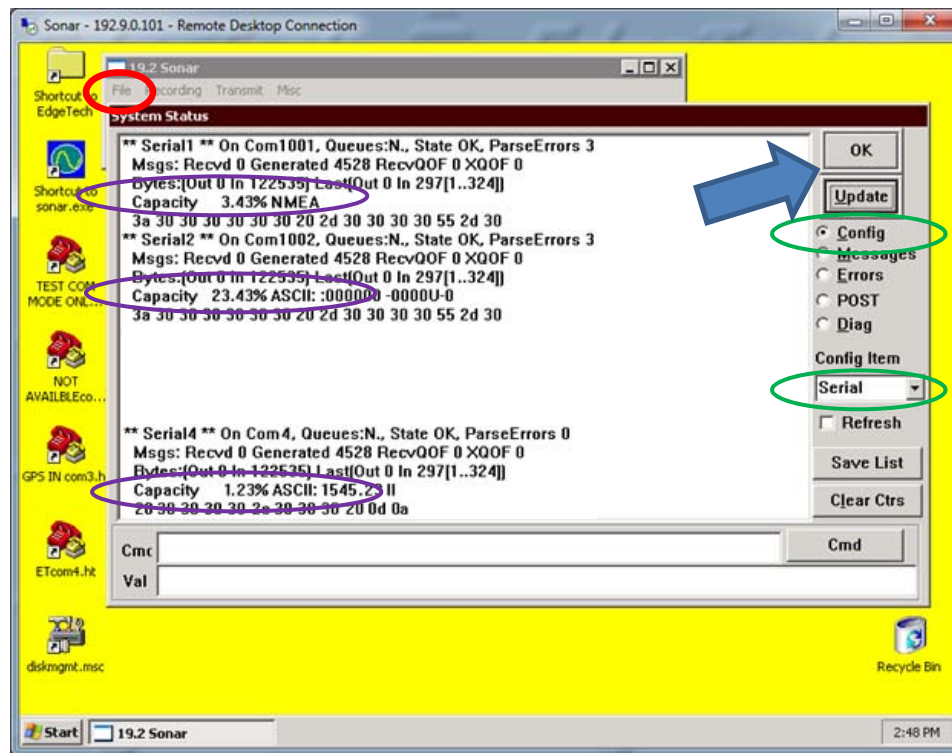

Fig. 11 - Checking Sensors' Usages
12. When satisfied with the incoming data, press **OK** in the System Status window (Fig. 11).